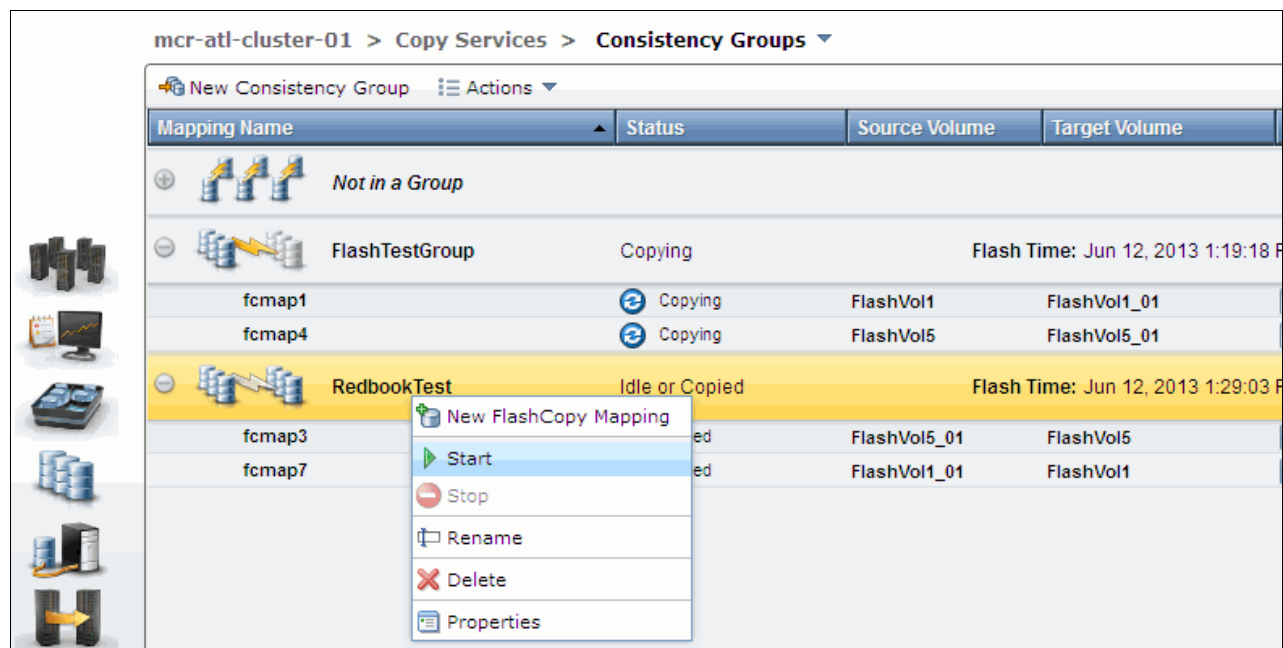

Figure 10-70 Starting Consistency group restore
3. To restore the consistency group, highlight the reverse consistency group and click **Start**, as shown in Figure 10-70.